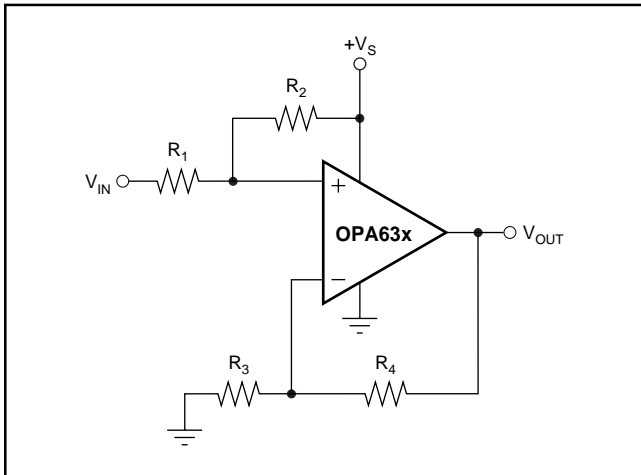

FIGURE 3. DC Level-Shifting Circuit.
Figure 3 shows a DC-coupled non-inverting amplifier that level-shifts the input up to accommodate the desired output voltage range. Given the desired signal gain (G), and the amount V_{OUT} needs to be shifted up (ΔV_{OUT}) when V_{IN} is at the center of its range, the following equations give the resistor values that produce the desired performance. Start by setting R_4 between 200Ω and $1.5k\Omega$.